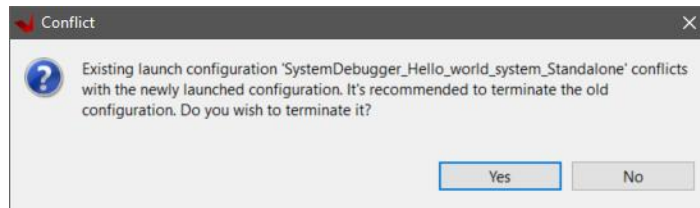

Figure 43
16. If the **Hello_world** application is still running in the ZYNQ7 Processing System, a **Conflict** window appears, asking if we wish to terminate the previous launched configuration (Figure 43)